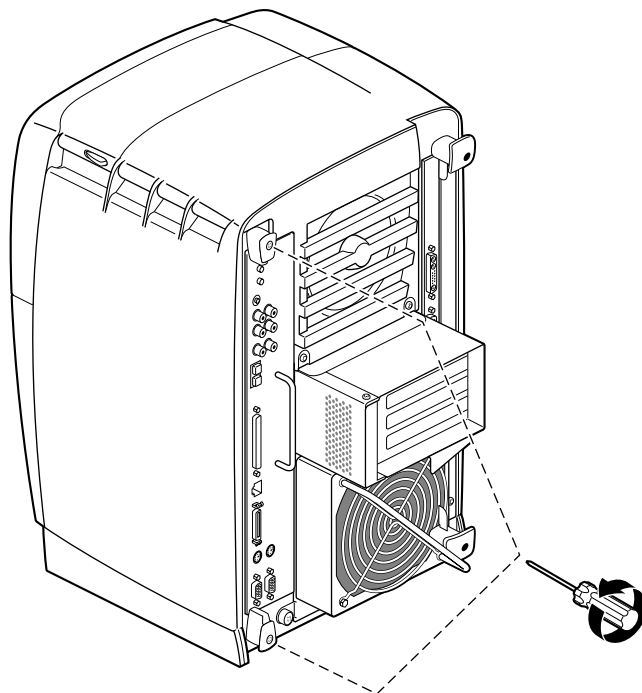

Figure 2-5 Removing the System Module Screws
2. Loosen the captive screws that hold the sliding handles to the Octane workstation. See Figure 2-5.